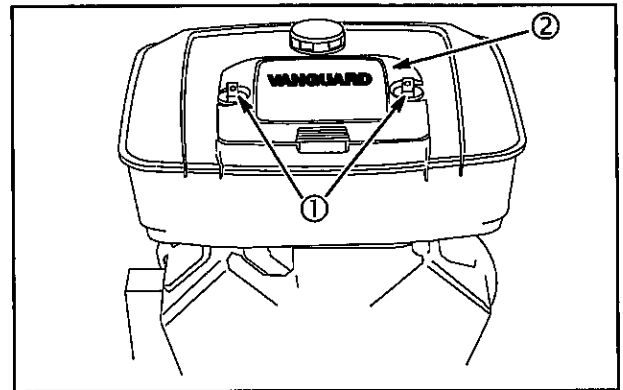

Fig. 7
1. Remove air cleaner cover knobs (1) and cover (2), **Fig. 7**.